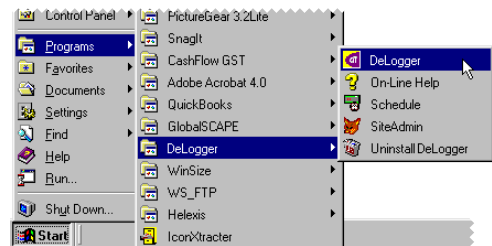

FIGURE 11 Typical Programs menu after installation
- f) When the computer has restarted, notice that the **Start > Programs** menu now contains a **DeLogger** folder (Figure 11), from which you can launch
- a) On the **Start** menu > **Programs** > **DeLogger** menu, click **DeLogger** — see Figure 11.